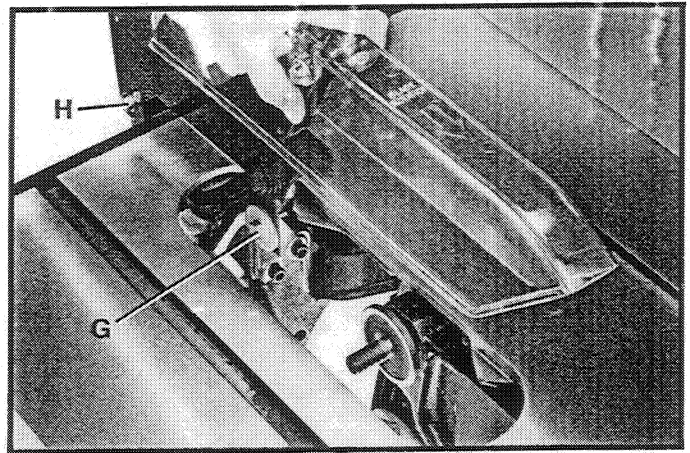
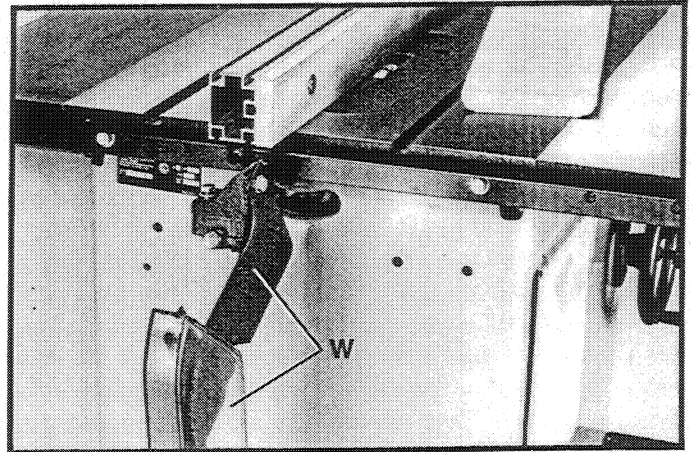

Fig. 85
Fig. 86
IMPORTANT: For certain cutting operations such as dadoing and moulding where you are not cutting completely through the workpiece, the blade guard and splitter assembly cannot be used. Simply loosen screws (G) and (H) Fig. 85. Lift up and swing blade guard and splitter assembly (W) Fig. 86, to the rear of the saw as shown in Fig. 86. **CAUTION:** Always return and fasten the blade guard and splitter assembly to its proper operating position for normal thru-sawing operations.